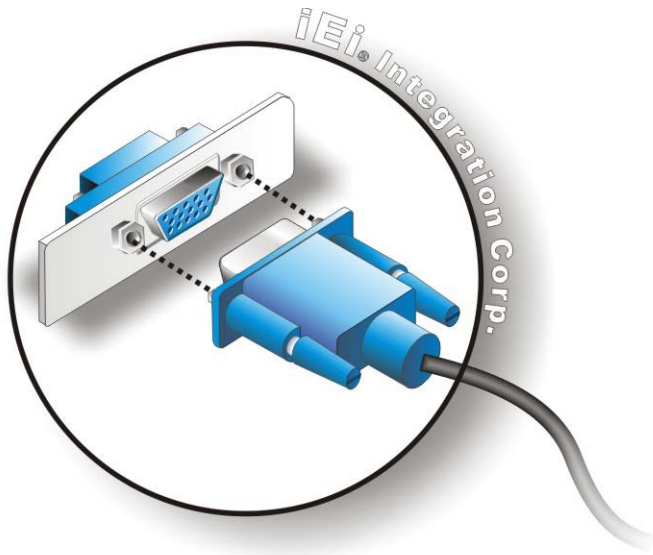

Figure 4-18: VGA Connector
- Step 3:** **Insert the VGA connector** Once the connectors are properly aligned with the insert the male connector from the VGA screen into the female connector on the SPCIE-C2060 Series. See **Figure 4-18**.